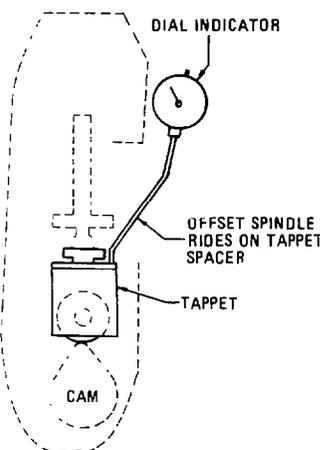

Fig. 112 — Dial Indicator on Tappet
3. Turn the pump camshaft in a clockwise direction until No. 1 tappet (item 20) begins to rise.
4. Mount a dial indicator with an offset spindle on the pump or test stand so that the spindle bears against No. 1 tappet as shown in fig. 112.